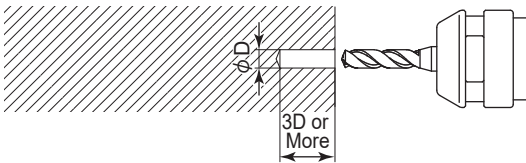

Fig. 35
- (1) The proper surface speed for general grindstones is 10 - 30m / s.
- (2) Do not exceed 13mm of overhang for mounted grindstones as shown in Fig. 35.
- (3) To ensure machining accuracy, keep the tool overhang length to the minimum when installing the tool.
- (4) If the overhang must exceed 13mm, reduce the Motor Spindle speed in accordance with Table. 5.
- (5) Dress the grindstone prior to use.
- (6) Do not use cutting tools with bent or broken shanks, cracks or excessive run-out.
- (7) For grinding, the maximum depth of cut should not exceed 0.01mm radially or axially. Reciprocate the tool several times after each pass to eliminate tool pressure.
- (8) Keep the cutting tool shank and collet clean. If contaminants are left in the collet or collet nut, excessive run-out will cause damage to the cutting tool and or spindle.
- (9) Do not strike, drop the spindle or the attached tool.